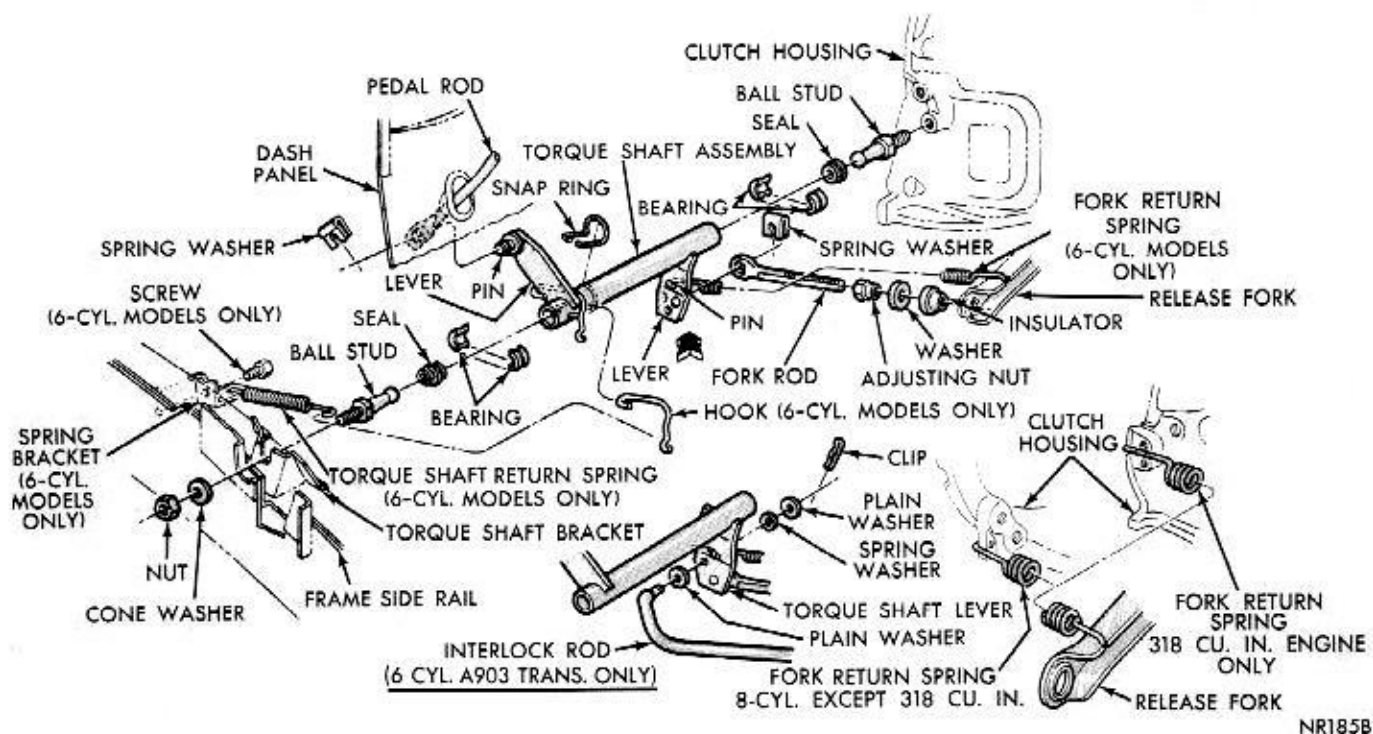
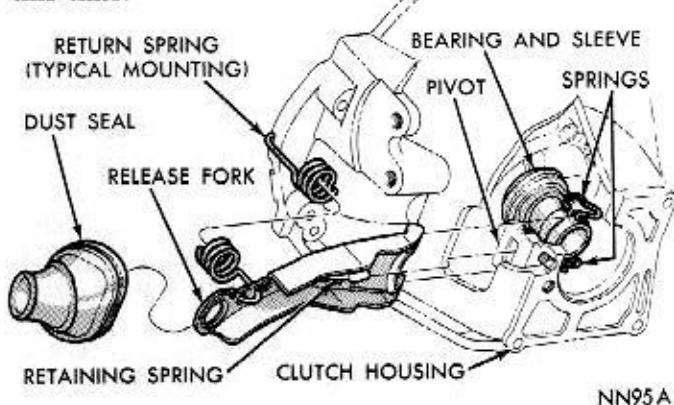
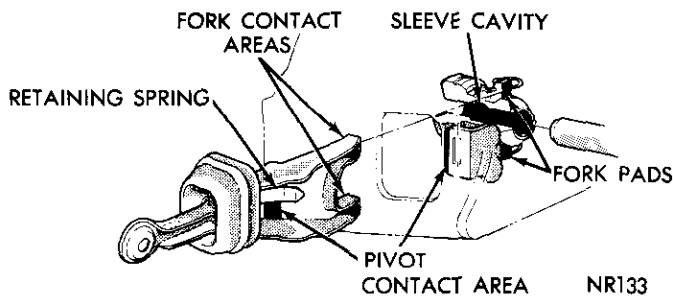

Fig. 5—Torque Shaft and Linkage (Coronet-Charger)
Fig. 6—Clutch Release Fork, Bearing and Sleeve
Fig. 9—Clutch Lubrication Points
(3) Adjust fork rod by turning self-locking adjusting nut (Fig. 5) to provide 5/32 inch free movement at end of fork. This movement will provide prescribed one-inch free play at pedal.
(4) Adjust interlock rod as described below.
(1) Remove transmission. See "Manual Transmission," Group 21, for detailed procedure.
(2) Remove clutch housing pan.
(3) Remove one end of return spring from clutch release fork and the other end from torque shaft lever or clutch housing (Fig. 5).
(4) Remove spring washer securing fork rod to torque shaft lever pin and remove rod from pin and release fork (Fig. 5).
(5) On 6 cylinder models with the A-903 transmission, remove clip and plain washer securing interlock rod to torque shaft lever and remove spring washer, plain washer and rod from torque shaft.
(6) Remove clutch release bearing and sleeve assembly from clutch release fork (Fig. 6) then remove release fork and boot from clutch housing.
(6) Fill cavity of bearing sleeve with Lubricant. Also apply a film to release fork pads of sleeve (Fig. 9).
(7) Position release bearing and sleeve assembly in clutch housing as far forward as possible.
(8) Lubricate fork fingers and retaining spring, at pivot contact area (Fig. 9) with a film of grease.
(9) Engage fork fingers under clutch sleeve retaining springs. **Be sure retaining springs on sleeve have lateral freedom** (Fig. 6).
(10) Be sure groove in seal is engaged in seal opening flange in clutch housing (Fig. 6).
(11) Insert threaded end of fork rod assembly in hole in end of release rod fork (Fig. 5). Install eye end of fork rod on torque shaft lever pin and secure with spring washer.
(12) Install one end of return spring to clutch re-
lease fork and the other end to torque shaft lever or clutch housing (Fig. 5).
(1) Remove one end of return spring from clutch release fork and the other end from torque shaft lever or clutch housing (Fig. 5).
(2) Remove spring washer securing fork rod to torque shaft lever and remove rod from torque shaft.
(3) Pry dust seal out of clutch housing and remove
from release fork (Fig. 6).
(4) Grasp outer end of clutch fork and pull fork out and free of retaining springs and pivot (Fig. 6). The clutch fork has a riveted flat retaining spring that is engaged in a hole in the pivot. The clutch release fork pivot is an 'L' shaped bracket bolted inside the clutch housing.
(5) Remove fork from clutch housing.
(1) The grease recommended for use during reassembly procedures is Automotive Multi-Purpose Grease NLGI Grade 2 E.P. or Multi-Mileage Lubricant, Part Number 2525035.
(2) Before installing release fork, lubricate both sides of fork contact areas, pivot contact area, edge of pivot, also the cavity inside clutch sleeve and the fork pads (Fig. 9).
(3) Install clutch release fork in housing, being careful to engage flat retaining spring in hole in pivot and under retaining springs of bearing sleeve.
(4) Install dust seal over release fork and engage groove of seal in clutch housing (Fig. 6).
(5) Insert fork rod assembly in hole in release fork. Install eye end of fork rod on torque shaft lever pin and secure with spring washer (Fig. 5).
(6) Install one end of return spring to clutch release fork and the other end to torque shaft lever or clutch housing (Fig. 5).
(7) Adjust clutch linkage as described under "Adjusting Clutch Pedal Free Play".
- (1) Fill cavity of bearing sleeve with the previously recommended Automotive Multi-Purpose Grease, NLGI grade 2 EP, (Fig. 9).